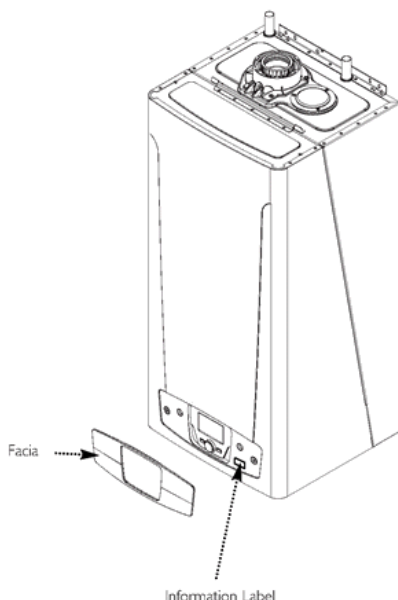

Fig. 1
4. The boiler data badge gives details of the model, serial number and Gas Council number and is situated on the rear of the facia (Fig. 1).